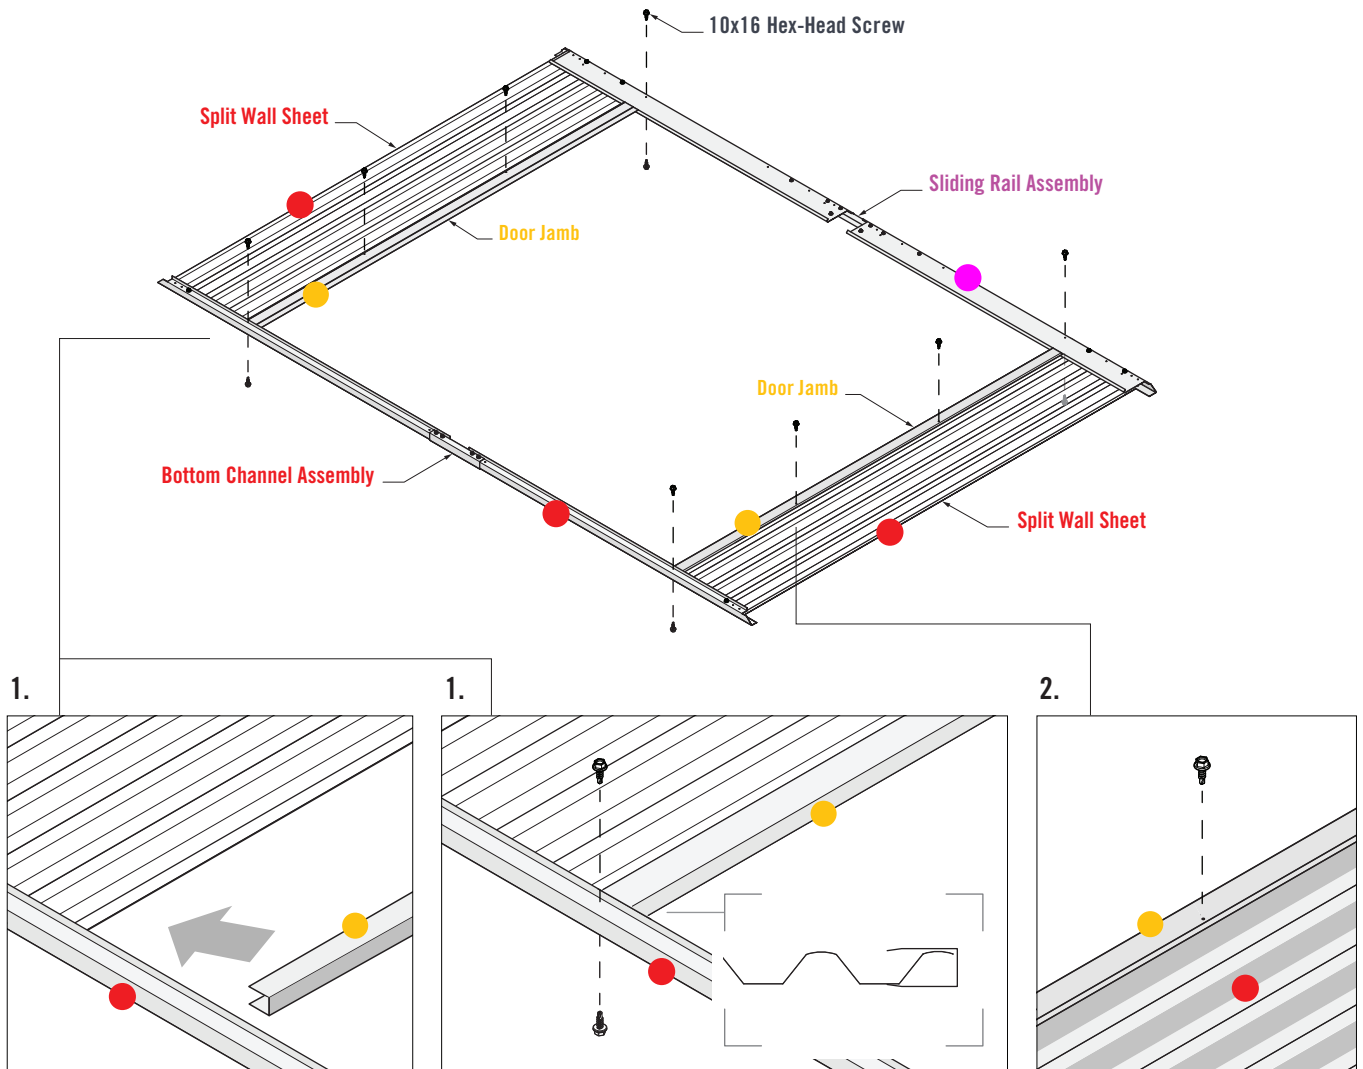

FIGURE 5.3
1. Fit the **Door Jamb** into the **Bottom Channel Assembly** and **Sliding Rail Assembly**. Position the **Door Jamb** over the Wall Sheets. Fasten both **Door Jamb**s to the Channel Assemblies with eight 10x16 Hex-Head Screws (Figure 5.3).
2. Fasten four 10x16 Hex-Head Screws through pilot holes of the **Door Jamb**s and into to the Wall Sheets (Figure 5.3).